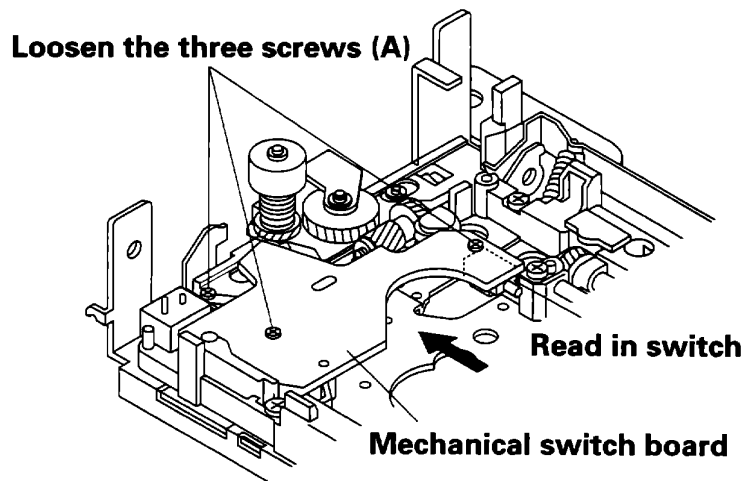

Fig. 6-2
1. Loosen the three screws (A) securing the mechanical switch board.
2. While pressing the mechanical switch board in the ← direction, tighten the screws, and measure the read in switch position again. After adjusting the position, secure the three screws (A). (See Fig. 6-2)